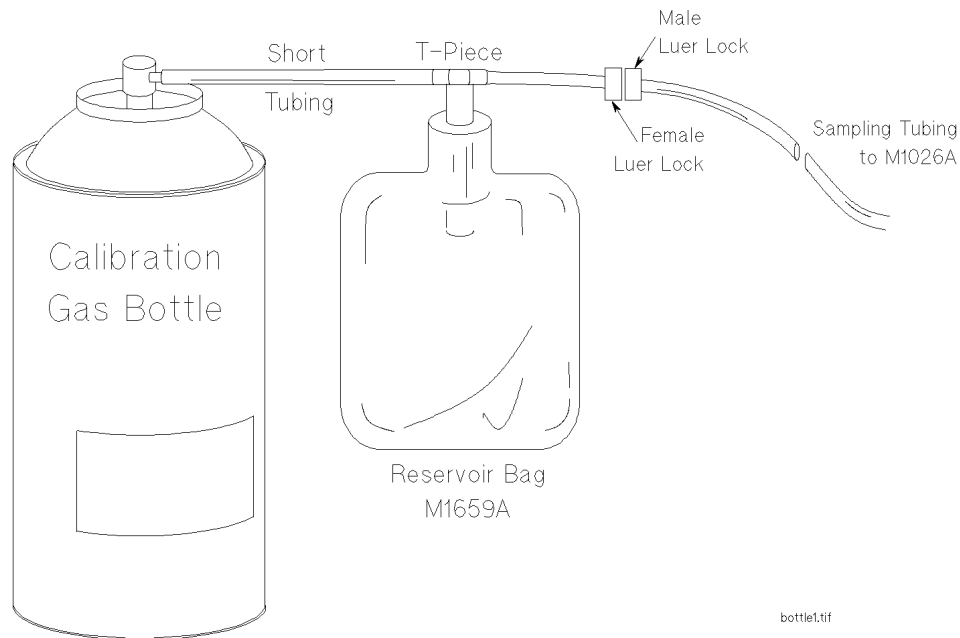

Figure 40 Span Calibration Equipment including Gas Canister and Spray Valve
- 5 Connect the calibration gas bottle, the reservoir bag and the sample line as shown in Figure 40, "Span Calibration Equipment including Gas Canister and Spray Valve".